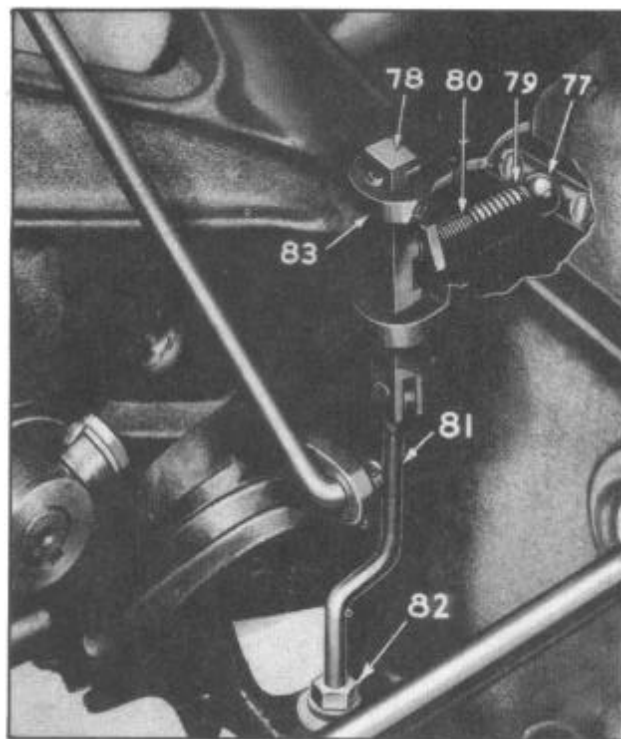

Figure 2--Transmission Shift Rail Locks
A positive locking device is fitted to both (second and high also low and reverse) transmission shifting rails and are operated by the clutch linkage, see Figure 2. When the clutch is engaged the balls (77) are locked in the shifting rail notches. When the clutch pedal is depressed the lock rod links (78) move up so that the notch is in
21. Remove the hex nuts from the bottom of connecting rods (81), Figure 2. Take off rods (81) and rail lock rod links (78).